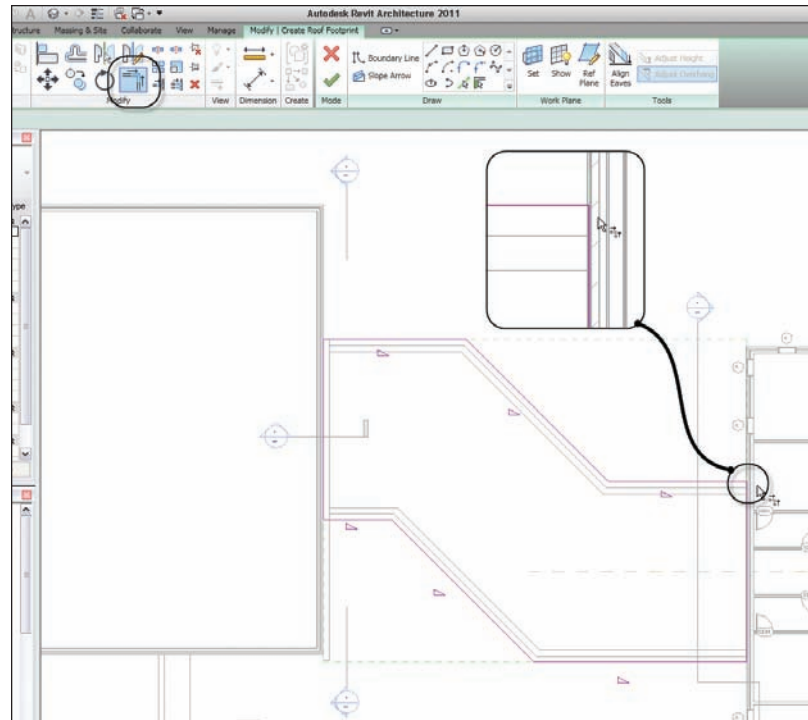

FIGURE 7.25 Using the Trim command in conjunction with the roof sketch.
1. On the Modify | Create Roof Footprint tab, select the Trim/Extend Single Element command, as shown in Figure 7.25.
2. Trim the intersections that overlap. There will be four of them (see Figure 7.25).